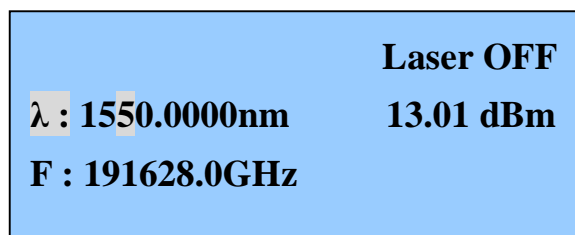

Figure 6 Modify the  $\langle \lambda \rangle$  parameter
- 3 Pressing [◀] or [▶] pushbutton to move to the third digit, 5, as shown in Figure 6.